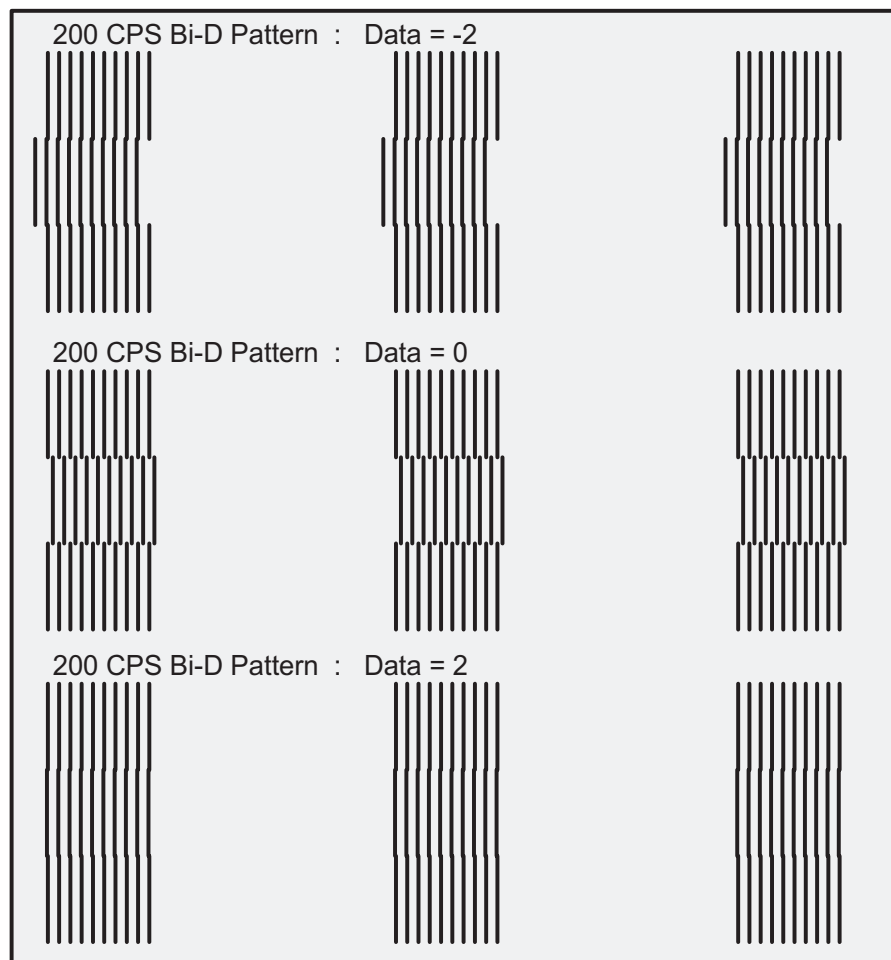

Figure 5-33. Bi-D Adjustment Pattern Sample
4. When you press Enter, the printer starts printing a Bi-D adjustment pattern (see Figure 5-33 on the next page).